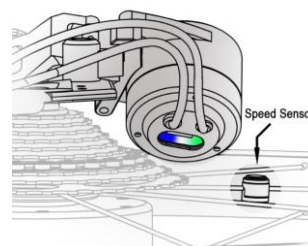

Fig3
**D. Install the Speed Sensor:** Mount the speed sensor onto the rear wheel spoke (Fig. 5), positioned close to the outer edge of the derailleur (Fig. 3).